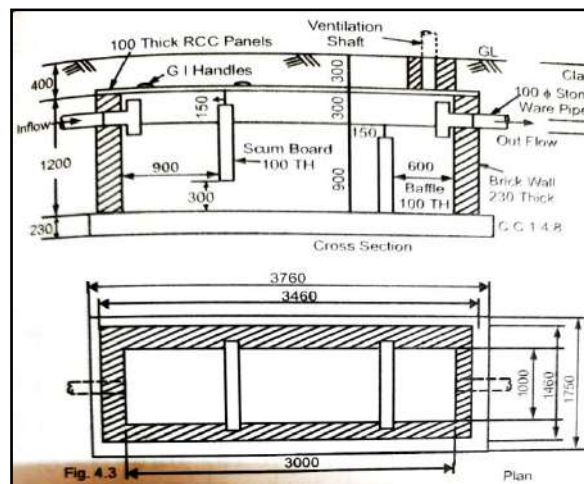

Fig.3
16. Calculate the following quantities of a septic tank shown in fig.3 (CO3)